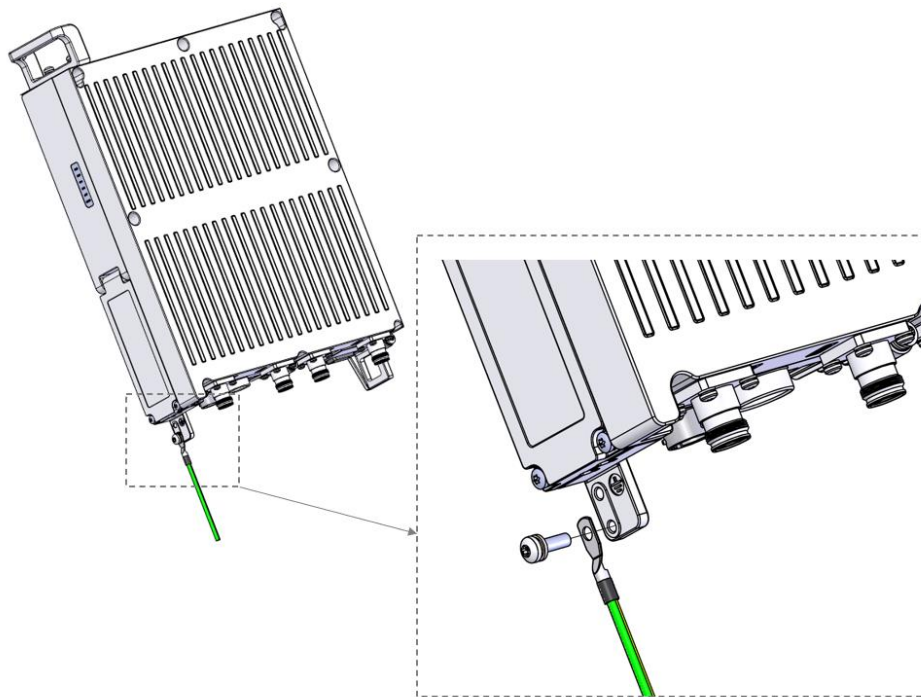

Figure 4-5 Installing ORRU PGND Cable
Step 1: Install the ORRU PGND cable. Connect the M6 OT terminal of the ORRU PGND cable to a ground terminal at the ORRU bottom side as shown Figure 4-5.